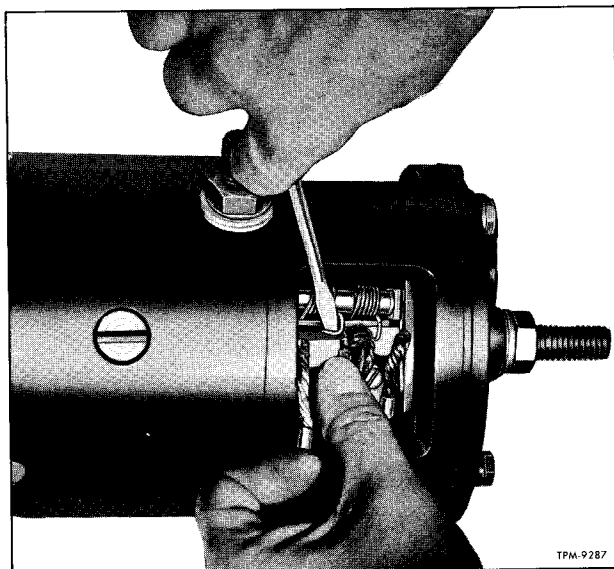

Figure 1—Removing or Installing Brushes
4. Using a screwdriver as shown in figure 1, bend brush holder spring back and remove brush from holder.
1. Using screwdriver to bend brush holder spring as shown in figure 1, and with groove in brush aligned with ridge in holder, insert brushes in holders.